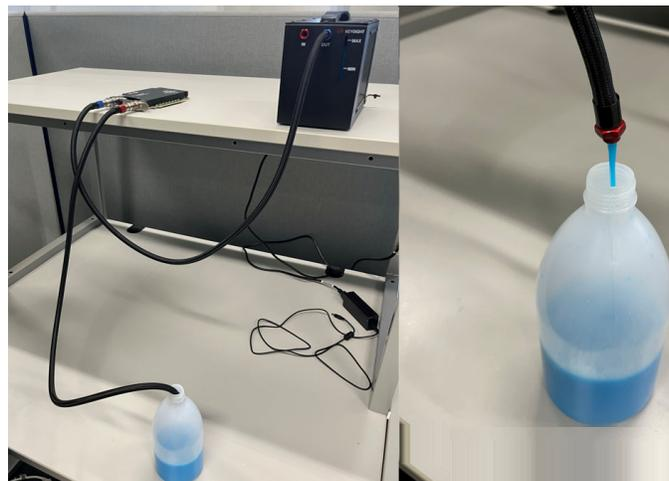

Figure 13 Emptying coolant from the Analyzer and heat exchanger
- Place the heat exchanger unit in an elevated position as shown in Figure 13. The coolant will start exiting through the open end of the hose and empty the Analyzer and heat exchanger.